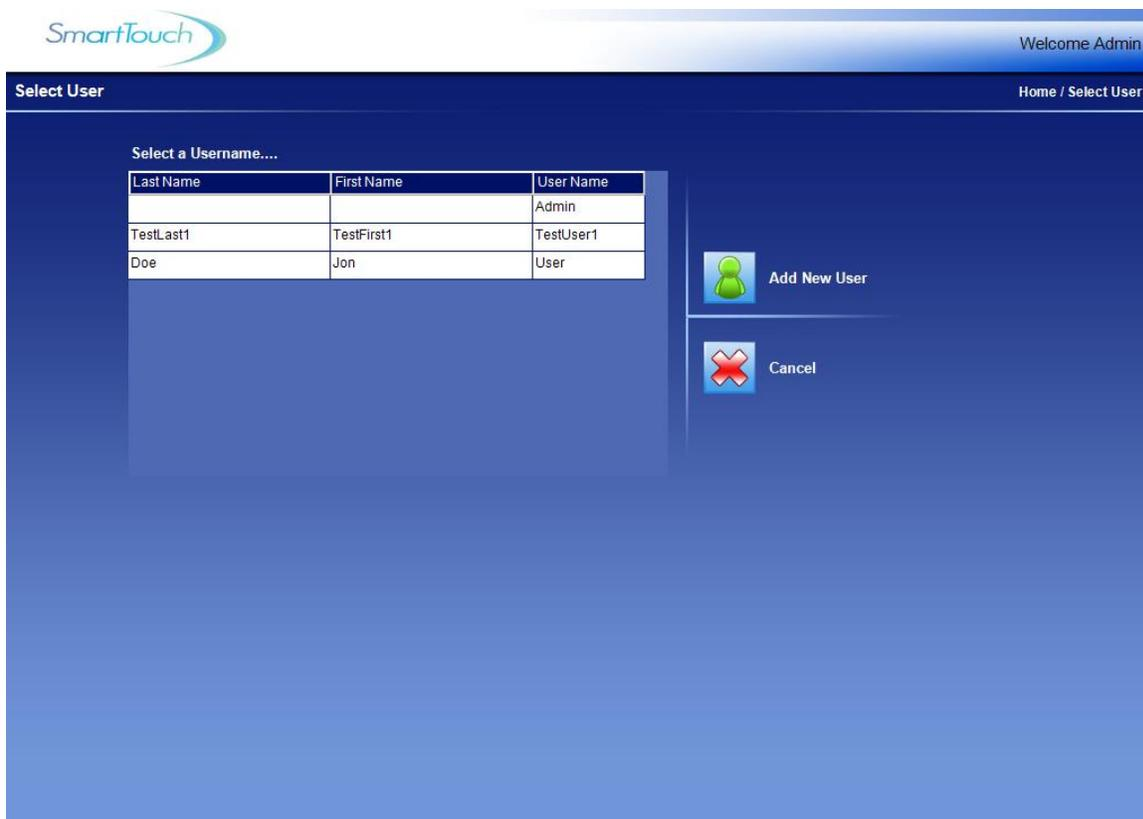

Figure 28 Select a Username Screen
2. From the Main Menu, select the **User Setup** button by tapping it once. The Select a Username screen will appear which includes a list of all established system users. (See Figure 28).